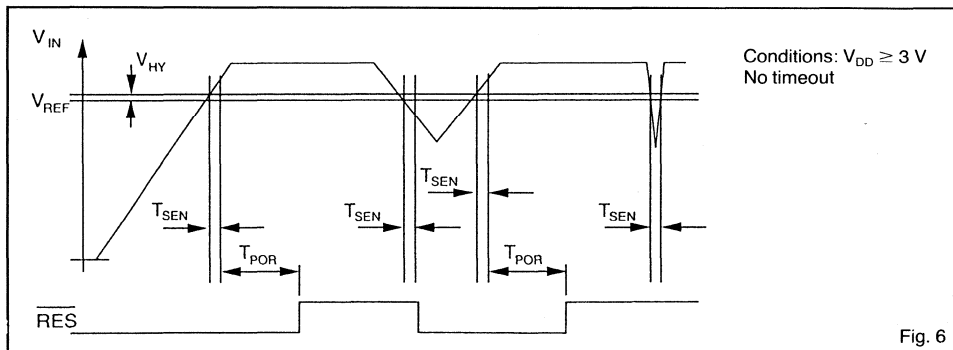

Fig. 6
1) The comparator reference is the power-down reset threshold. The power-on reset threshold equals the comparator reference voltage plus the comparator hysteresis (see Fig. 6).
At power-up the reset output ( $\overline{\text{RES}}$ ) is held low (see Fig. 6). When VIN becomes greater than VREF, the RES output is held low for an additional power-on reset (POR) delay which is equal to the watchdog time TWD (typically 100 ms with an external resistor of 115 kΩ connected at R pin). The POR delay prevents repeated toggling of RES even if VIN and the INPUT voltage drops out and recovers. The POR delay allows the microprocessor's crystal oscillator to start and stabilize and ensures correct recognition of the reset signal to the microprocessor.